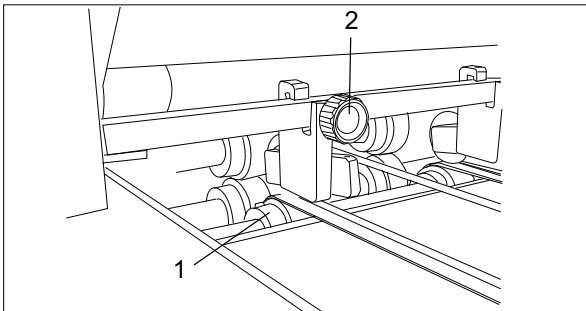

Fig. 69 Setting
1. Loosen the Allen screws of the flat belt rollers (Fig. 69/1).
3. Tighten the Allen screws of the flat belt rollers (Fig. 69/1).
4. Loosen the clamp screws (Fig. 69/2) for the round belt guides.